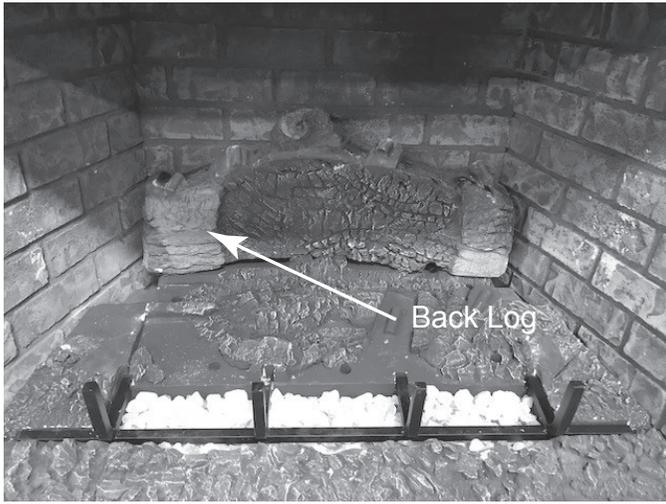

Figure 11.14
- Locate the back log by placing the two notches on bottom of the log on to the two locating points on rear of burner top. See Figure 11.14.